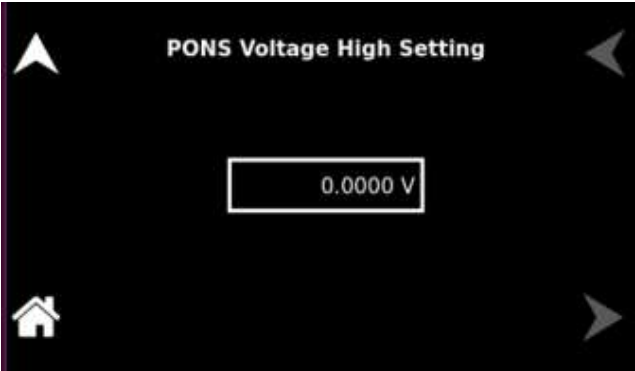

Figure 9-131. Voltage High Setting
**PONS Voltage High Limit** Users can set a voltage high limit value, which functions as a trip limit (CC and CC/CP), or it regulates (CC/CV) the output upon reaching the PONS Voltage High Limit. Refer to Figure 9-131.